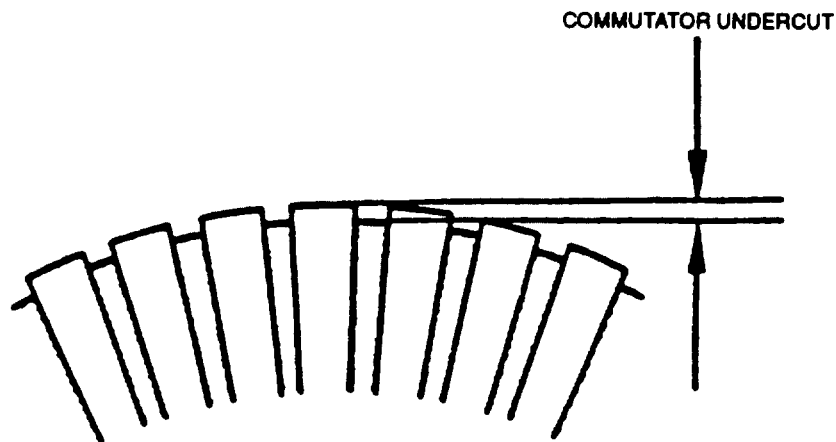

FIGURE 3-17. Measuring Segment Mica Depth
- (1) Place armature bearings on V-blocks.
- (2) Zero dial indicator on commutator.
- (3) Rotate armature and record run-out. Standard is 0.0008 inch (0.02 mm), with a limit of 0.00197 inch (0.5 mm).
- (4) If run-out exceeds limit, replace armature.
- c. Measure commutator segment mica depth as shown in FIGURE 3-17. If depth is less than 0.0079 inch (0.2 mm), undercut the mica.